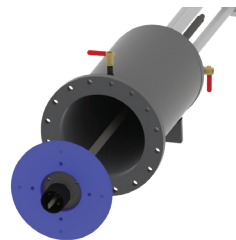

Figure 10
3.0.7) With the installation housing lying on its side, insert the cutter assembly, shaft first, into the housing and through the packing nut until the cutter and its pilot drill are completely inside the housing (see Figure 10).